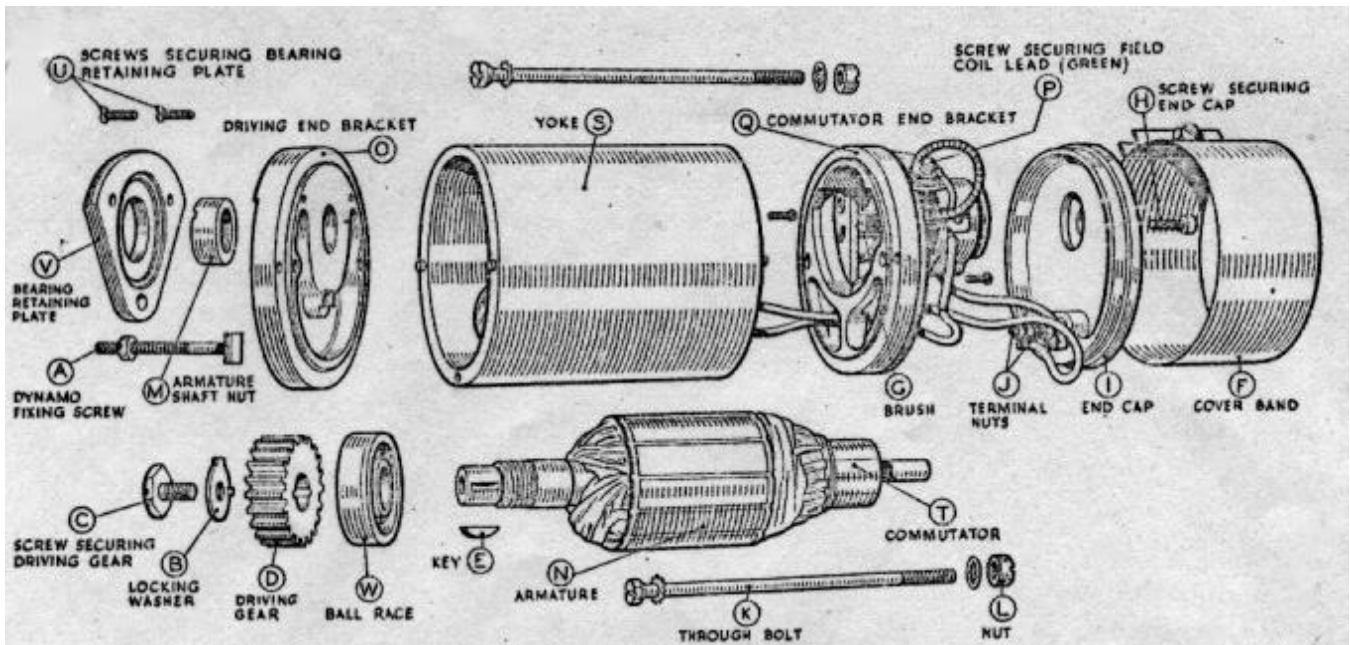

Fig. 59. Exploded view of dynamo
When replacing, slide the dynamo through the band clip so that fixing screw (A, Fig 59) passes through its hole in the end cover and the gears mesh correctly. Tighten the end nut and the band clip fixing screws and remake the connections to the dynamo terminals
- Bend back the tag on the washer (B, Fig. 59) locking the screw (C) securing the driving gear (D) and remove the screw. Withdraw the gear from the dynamo shaft by carefully levering it off by means of an extractor. Remove the key (E) from the shaft.
- Remove the cover band (F), hold back the brush spring and lift the brushes (G) from their holders.
- Take the screw (H), with spring washer, from the centre of the black moulded end cap (I). Draw the cap away from the end bracket, take off nuts (J) and spring washers, and lift the connections off the terminals.
- Unscrew and remove from the driving end bracket, the two bolts (K) securing the driving end bracket (O) and commutator end bracket (Q) to the dynamo yoke (S). Hold the nuts (L) at the commutator end whilst unscrewing the bolts, and take care not to lose the nuts.
- Draw the armature (N) complete with end bracket (O) out of the yoke.
- Unscrew the nut (M) from the driving end of the dynamo shaft and remove the armature from the end bracket, using a hide or wooden mallet.
- Take out the screw (P) securing the green field coil lead with the yellow sleeve to commutator end bracket and remove the end bracket (O), withdrawing the connectors through the slot in the insulating plate.
The ball bearing (W, Fig. 59) at the driving end is replaced as follows:-